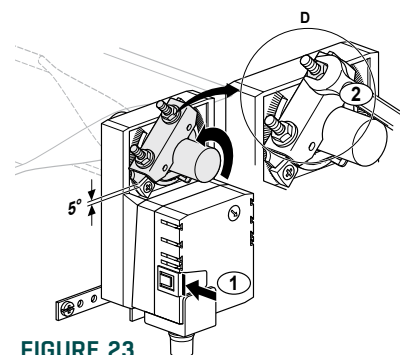

FIGURE 23
Confirm the damper is now fully closed, but the actuator is 5° from fully closed, (1/16" to 1/8" between stop and clamp). (See FIGURE 23) This is called "pre-loading" the actuator. When the actuator is powered and sent to the closed position it will put its full torque on the shaft compressing the edge and blade seals. The actuator is electronically protected from overload and will not be damaged.
- 2) Loosen the nuts on the universal clamp. Press the manual override button and rotate the clamp to about 5° from fully closed, (1/16" to 1/8" between stop and clamp). Tighten the two nuts on the universal clamp with a 10 mm wrench (See FIGURE 23).